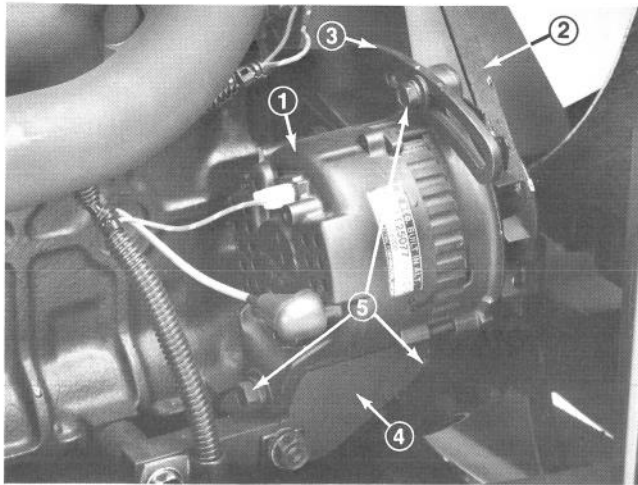

Figure 39
c. Loosen bolts (3) securing alternator to plate and mounting bracket (Fig. 39). Rotate alternator away from engine to increase tension and tighten bolts. Check belt tension after adjustment and re-adjust, if necessary.